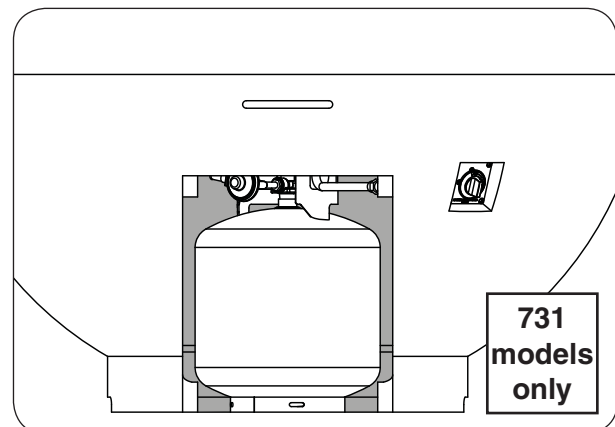

Fig. 24-2 L.P. cylinder placement
3. The propane cylinder (not included) is to be located inside the base of the unit, via the storage door opening (see Fig. 24-2).